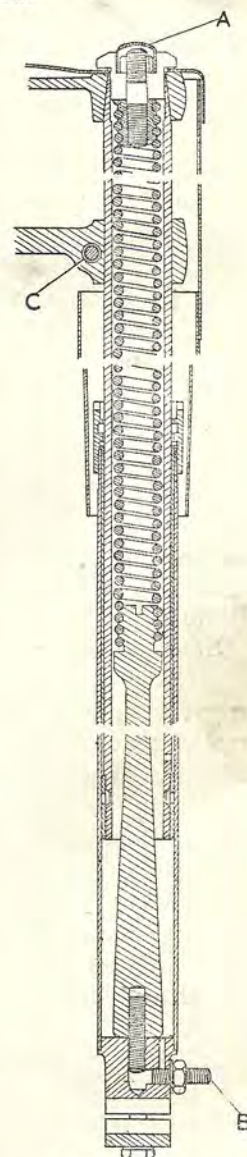

Fig. D33.
Prise out the top cap (A) Fig. D33 and unscrew the $\frac{3}{8}$ in. nut holding the top spring scroll.